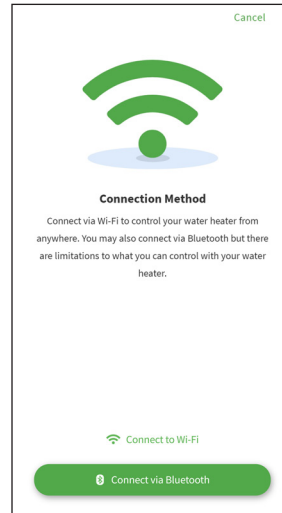

Figure 158 - Connect via Bluetooth
- 1 Select the option to “Connect via Bluetooth” at the bottom of the screen (Figure 158).